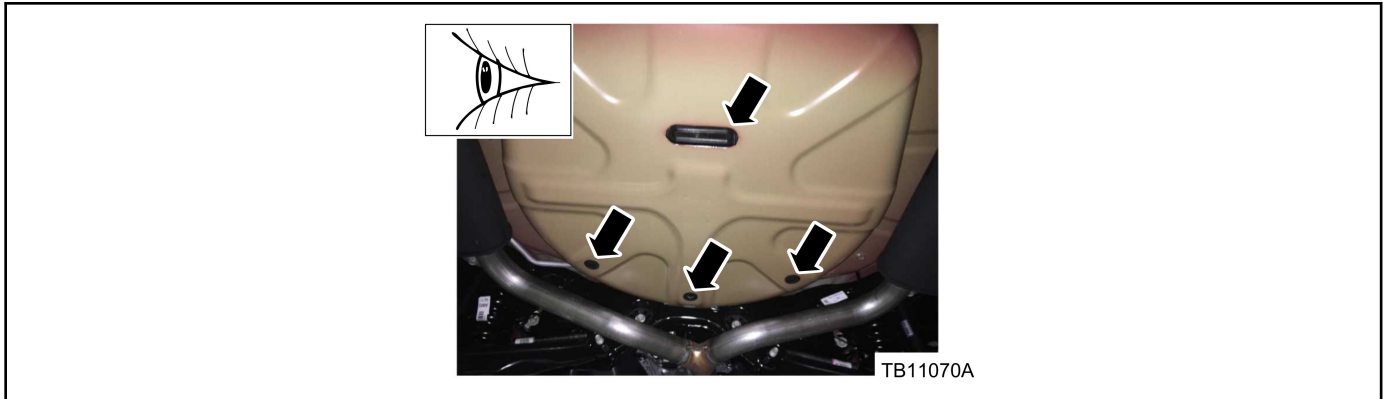

Figure 2 - Article 17-0044
- d. Rear end underbody sheet metal/body plugs. (Figure 2)
11. Inspect the rear underbody spare tire pan plugs and verify plugs are properly installed. (Figure 2)